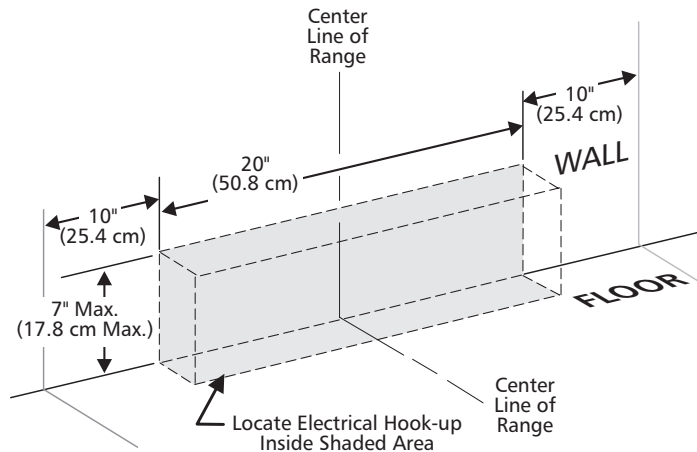
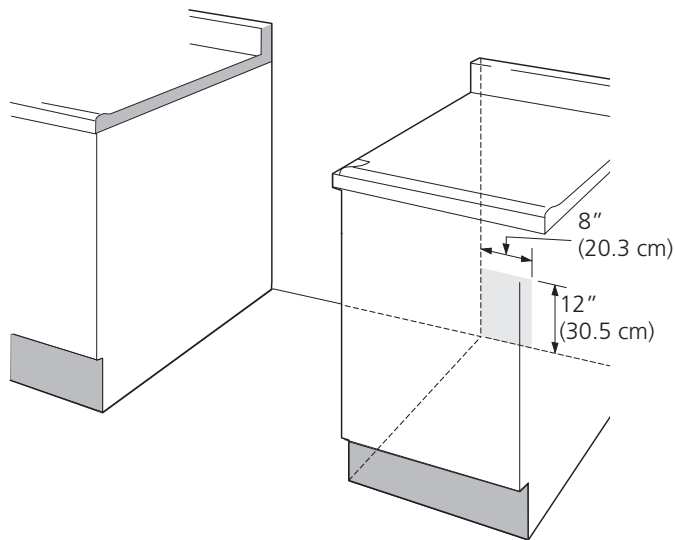

Figure 4: Outlet location behind range
Figure 5: Adjacent cabinet outlet location
1. If range will be installed with a cabinet on both sides, Draw a center line on the floor between the cabinets (Figure 5).
Suggested location of the wall outlet is shown in Figure 4. The outlet may also be located in the lower left corner of the adjacent right cabinet, as shown in Figure 5.